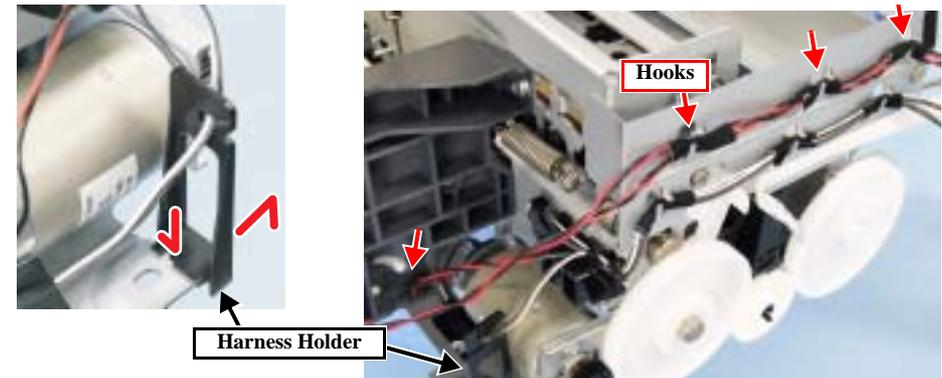

Figure 4-52. Removing the Harness Holder
5. Remove the Harness Holder. (Fig. 4-52)